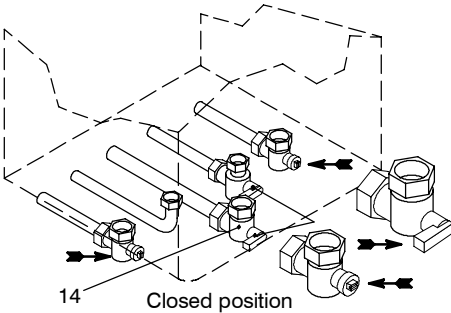

Fig. 2.11
- 2 Shut off the gas supply cock 14 and the valves for the water circuits fitted under the boiler (Fig. 2.11).